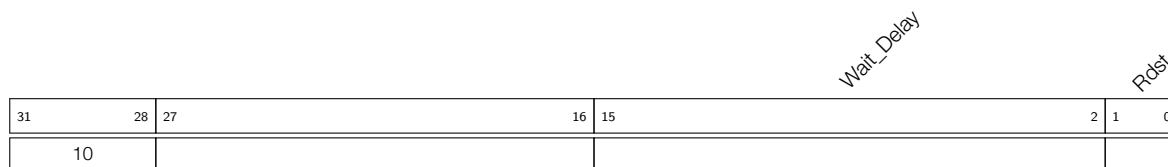

Figure 28-21. Instruction Type - TSENS
**Operand**     **Description** - see Figure 28-21